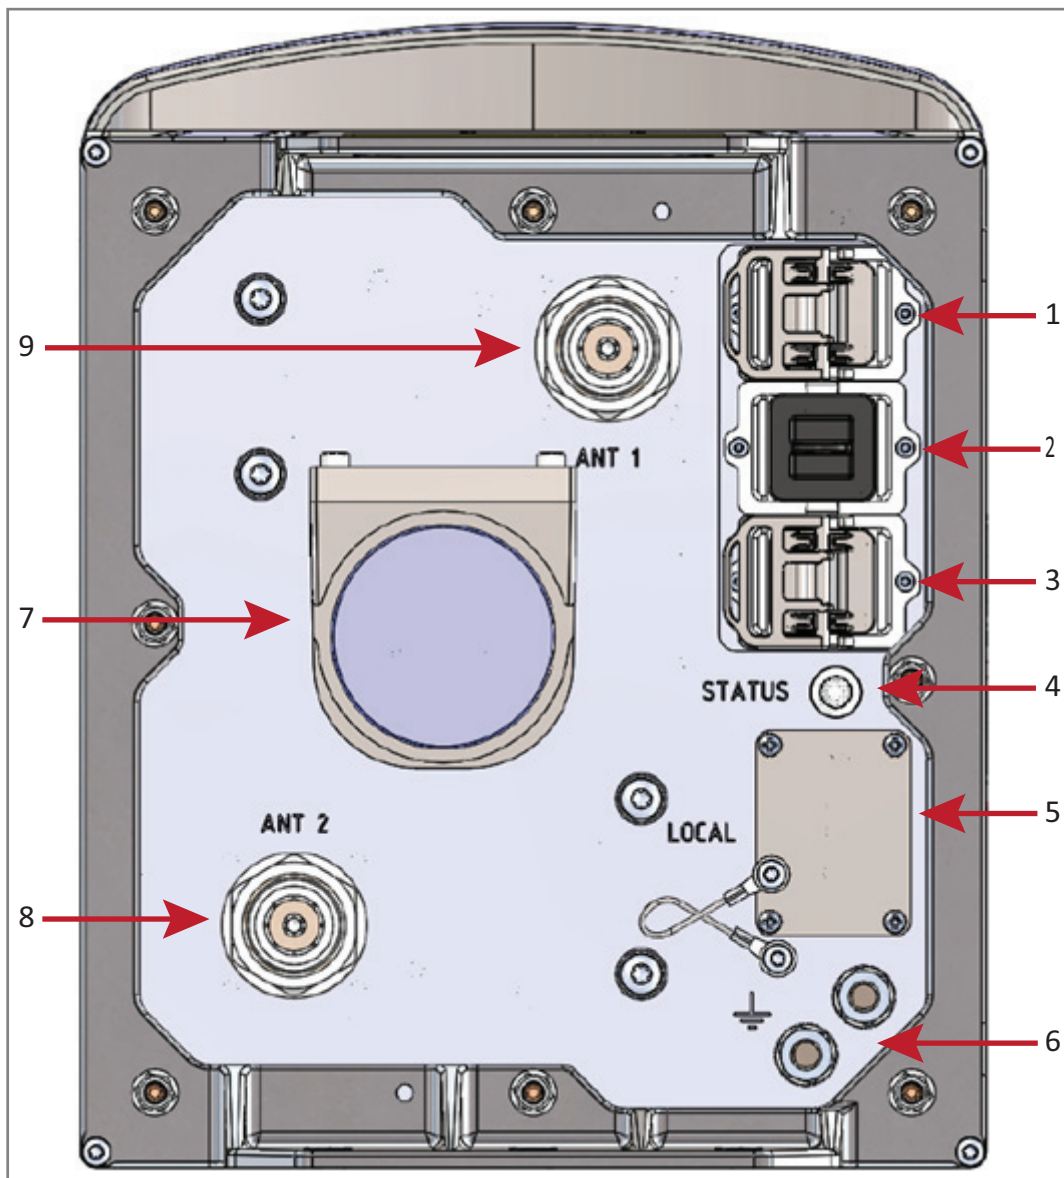

Figure 5. Location of Connectors and Status LED on DC Version with Two Antenna Connectors
- Table 3 on page 10 maps the callouts in Figure 4 and Figure 5 on page 11 and describes the connectors and STATUS LED.
- Figure 5 on page 11 shows the connectors on a DC version with two antenna connectors.
The "REF #" column in Table 2 refers to the callouts in Figure 2 on page 6 and Figure 5 on page 11.